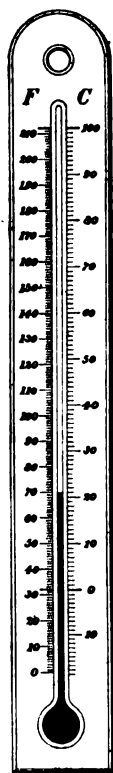

FIG. 1.
**19. Measurement of Temperature.**—Temperature is measured by means of an instrument called a **thermometer**, one type of which is shown in Fig. 1. It consists of a glass tube, closed at both ends, and having a bulb at the lower end. The bulb and the lower end of the tube are filled with mercury, which, on being heated or cooled, expands or contracts in proportion to the change of temperature. This expansion or contraction causes the top of the mercury column to rise or fall, and since equal changes of temperature make the mercury column rise or fall equal distances, the graduations on the scale are made equal throughout.
**20. Combination Thermometer.**—In Fig. 1 is shown a combination thermometer, that is, one that has two scales. The scale on the left, marked *F*, in combination with the glass tube forms a *Fahrenheit thermometer* (so named after its inventor), which is the one commonly used; the scale *C* on the right forms, in combination with the glass tube, a *centigrade thermometer*. The centigrade thermometer is used by scientists throughout the world on account of the graduations being better adapted for calculations.